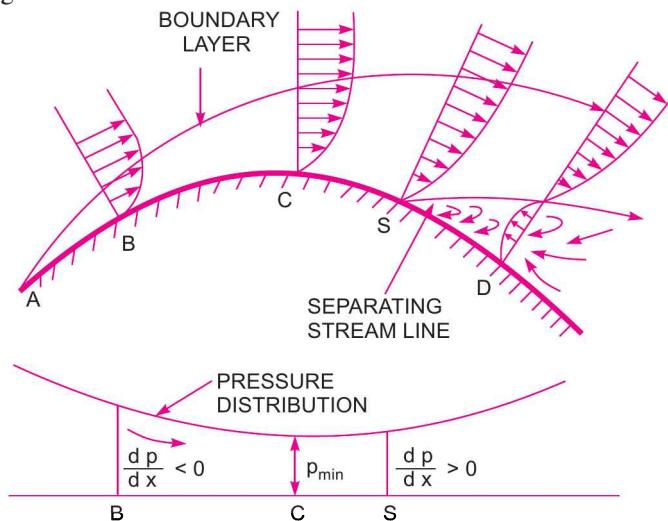

Fig. 13.7 Effect of pressure gradient on boundary layer separation.
curved surface $ABCSD$ as shown in Fig. 13.7. In the region ABC of the curved surface, the area of flow decreases and hence velocity increases. This means that flow gets accelerated in this region. Due to the increase of the velocity, the pressure decreases in the direction of the flow and hence pressure gradient $\frac{dp}{dx}$ is negative in this region. As long as $\frac{dp}{dx} < 0$, the entire boundary layer moves forward as shown in Fig. 13.7.
13.7.3 Methods of Preventing the Separation of Boundary Layer. When the boundary layer separates from the surface as shown in Fig. 13.7 at point *S*, a certain portion adjacent to the surface has a back flow and eddies are continuously formed in this region and hence continuous loss of energy takes place. Thus separation of boundary layer is undesirable and attempts should be made to avoid separation by various methods. The following are the methods for preventing the separation of boundary layer :